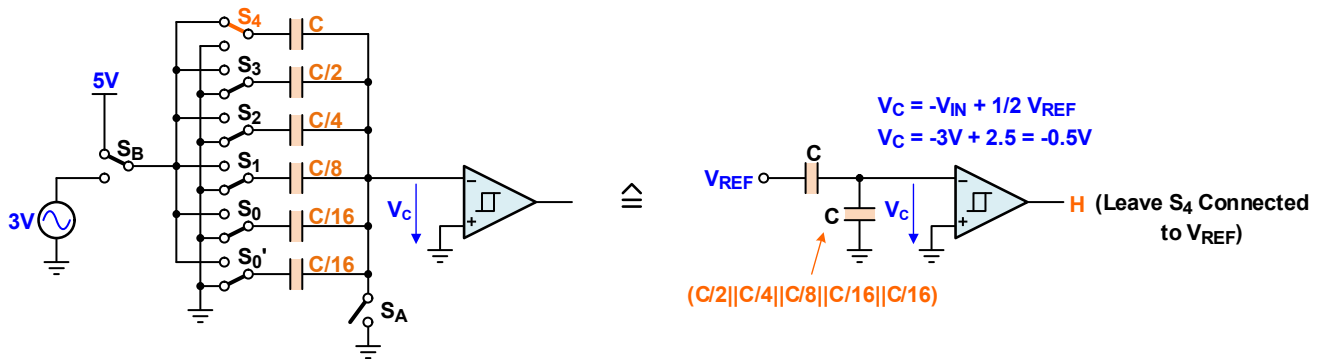

Figure 7. Bit-4 (MSB): Because  $V_O = H$ , Bit 4 = 1. Therefore,  $S_4$  Must Remain in its Current Position
**Bit 4 (MSB):** The first conversion step determines the most significant bit (MSB = Bit 4) connecting  $C$  to  $V_{REF}$  using  $S_4$ . The ratio of the capacitive voltage divider becomes  $X = 1/2$  and creates a comparator input voltage of  $V_C = -0.5V$ . This turns the comparator output high and sets Bit 4 to 1. It also means that  $S_4$  must remain in the present position for the rest of the conversion process (Figure 7).